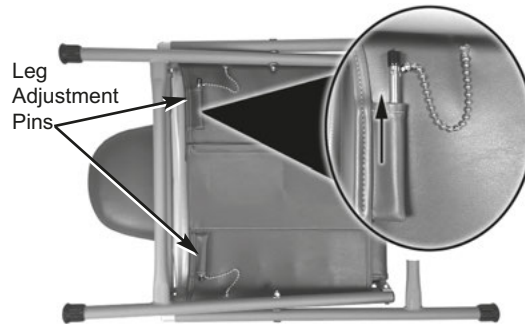

Figure 1 - Leg Adjustment Pin Location
2. Rotate the chair up onto one side and remove the leg adjustment pins from their storage pouch underneath the chair seat. (Fig. 1)